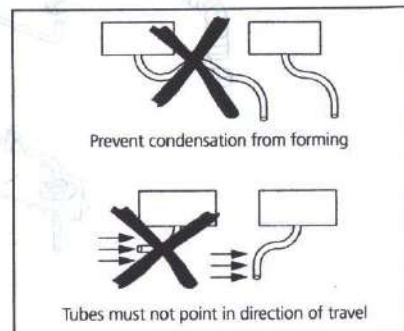

Fig. 5-6: Combustion Air/Exhaust Tube Routing
2. Route exhaust tube to the side or rear outer edge of the cab sleeper or vehicle. Always route exhaust tube in a slight downward pitch away from the heater to allow condensation to drain. If dips or bends cannot be avoided, drill a 5 mm (3/16 in.) hole at the lowest point of each bend or dip to allow drainage of condensation (see figure 5-6).
2. Route the combustion tube to an area under the vehicle cab or sleeper where it is protected from splash water and not likely to be clogged by snow, mud or debris. Always route intake tube in a slight downward pitch away from the heater to allow moisture to drain. If dips or bends cannot be avoided, drill a 5 mm (3/16 in.) hole at the lowest point of each bend or dip to allow drainage of moisture (see figure 5-6).
3. Bend inlet end of tube in a downward direction (see figure 5-6). Do not point into the direction of travel.